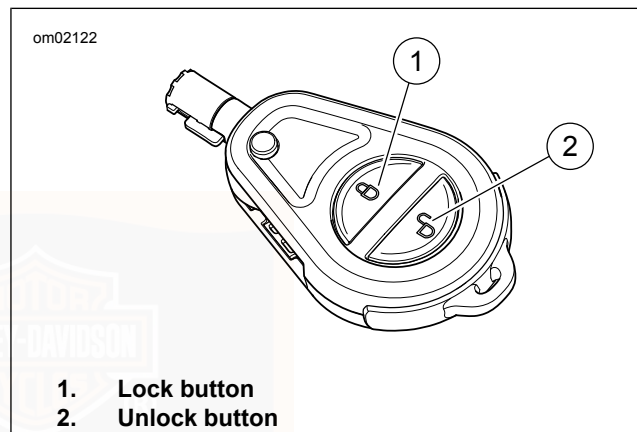

Figure 7. Key Fob
- b. **Key fob:** See Figure 7 . Press the lock button on the key fob.
- b. **Key fob:** See Figure 7 . Press the unlock button on the key fob.
See Figure 7. The key fob remotely locks and unlocks the fork lock knob, saddlebags and Tour-Pak. The key fob can actuate the locks while the motorcycle is on or off.